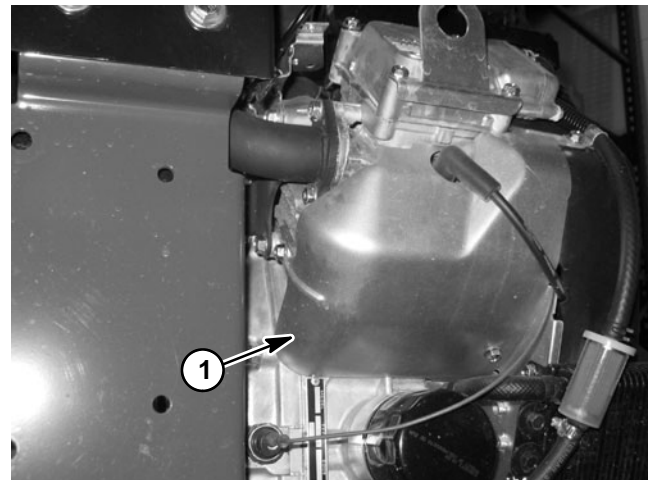

Figure 3
4. Clean cooling fins on cylinder and cylinder head. Remove engine cylinder shrouds from engine for more thorough cleaning (Fig. 3).